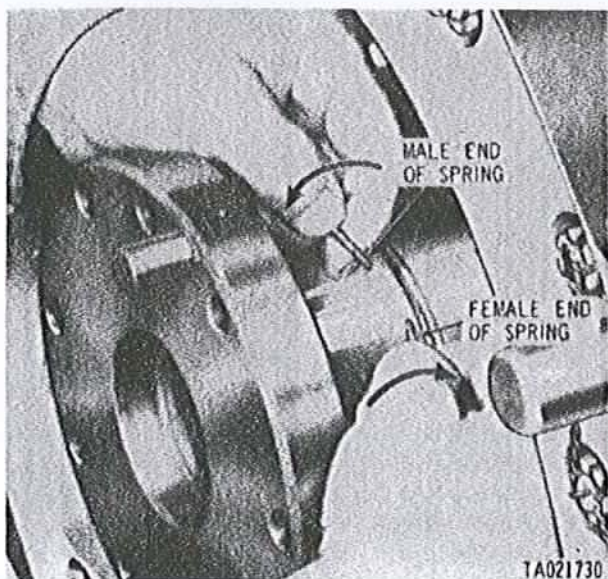

Figure 2-105. Installing crankshaft oil seal spring.
(1) Position oil seal spring (fig. 2-105) around crankshaft and interlock ends. Secure spring by twisting female end of spring clockwise and male end counterclockwise.